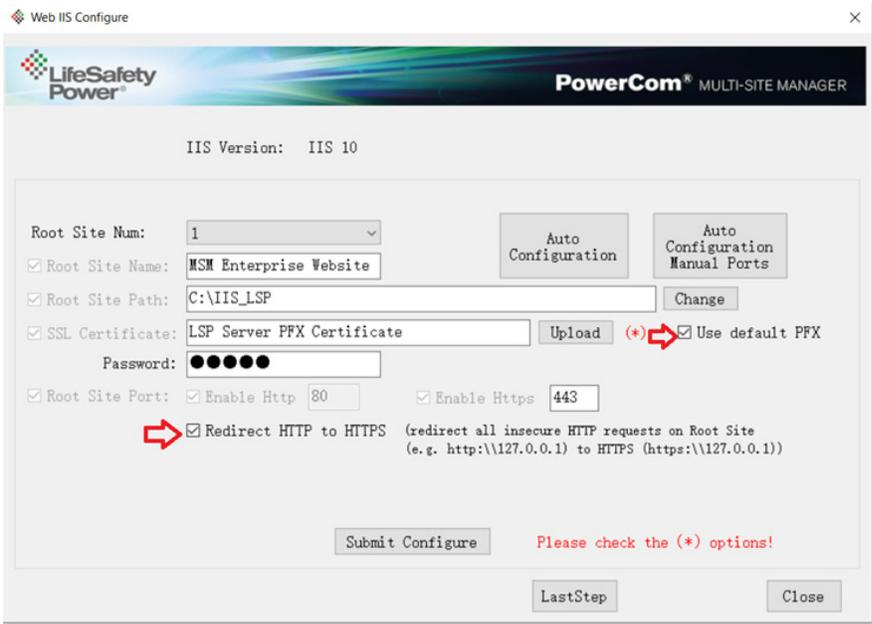

Figure A12
12. If a new SSL certificate will not be installed, check "Use Default PFX Certificate". Ensure Redirect HTTP to HTTPS is selected and click "Submit Configure". (Figure A12) Click "Close"